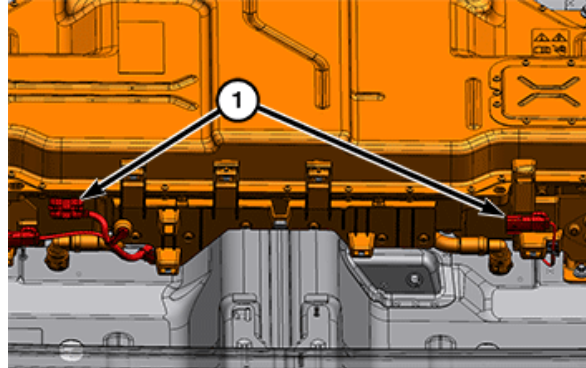

Figure 20 – HV Wire Harness Connectors
48. Disconnect the HV wire harness connectors (1) (Figure 20).
8. Connect the three HV wire harness connectors (1) (Figure 20).